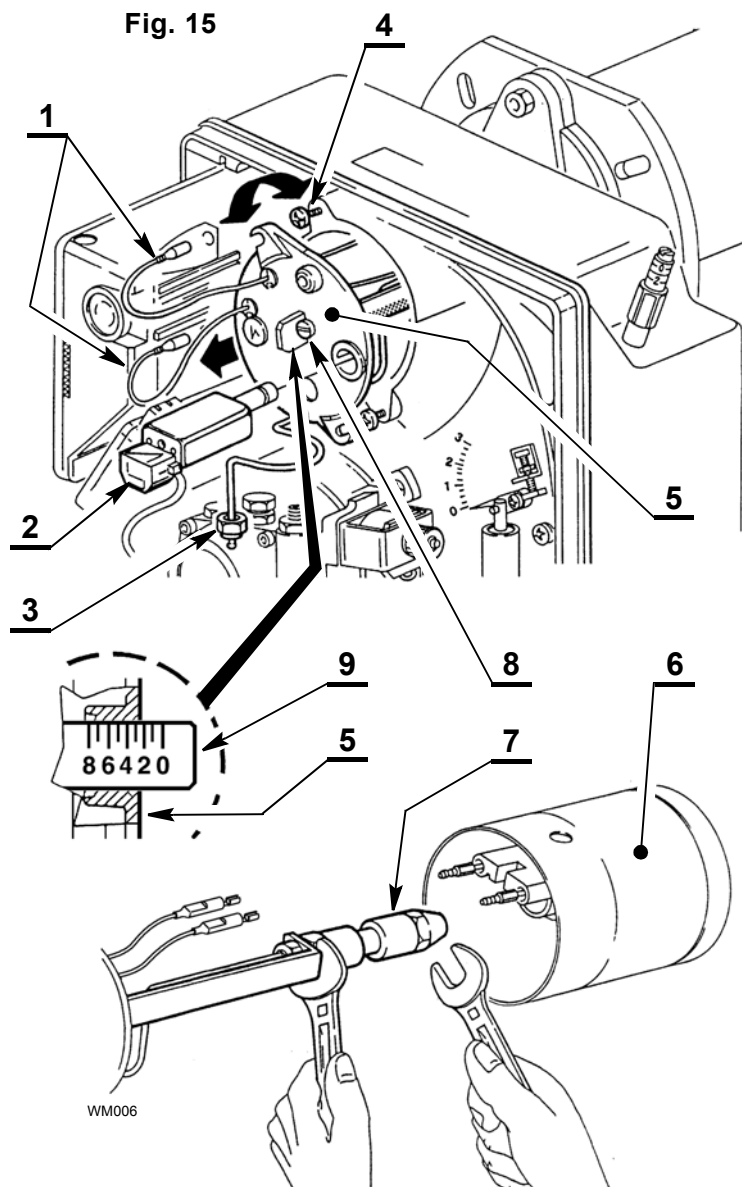

Fig. 15
4.4 MAINTENANCE POSITION, (see fig. 15)
(see fig. 15)
4.5 COMBUSTION HEAD SETTING, (see fig. 15)